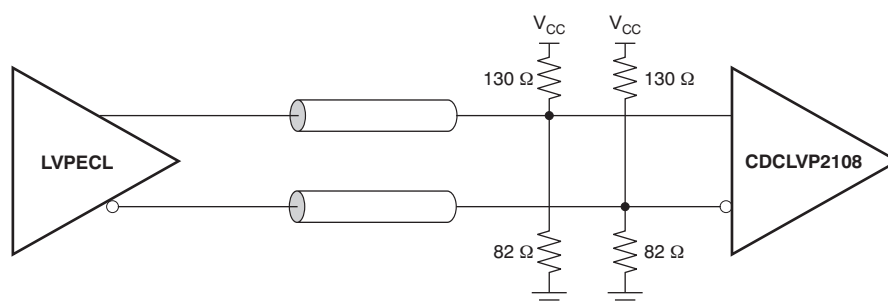

Figure 5. DC-Coupled LVPECL Input During Device Test
(1) Figure 5 and Figure 6 show dc test setup. Figure 7 shows ac test setup.